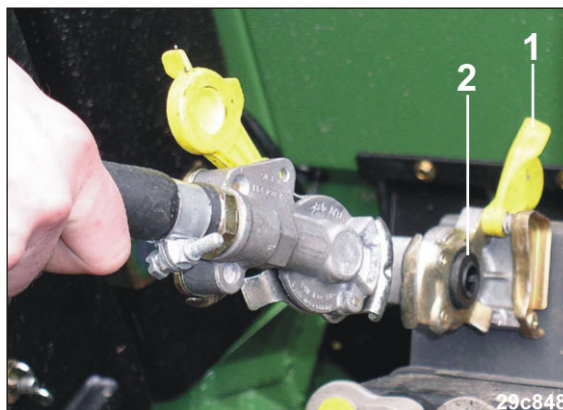

Fig. 54
1. Open the covers (Fig. 54/1) of the hose couplings on the tractor.
4. Fasten the hose coupling of the brake line (yellow) in compliance with regulations in the coupling marked yellow (Fig. 54/2) on the tractor.